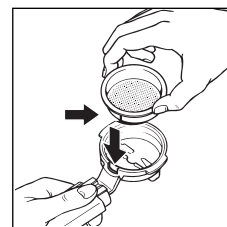
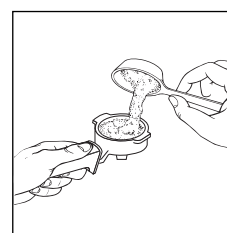

fig. 8
fig. 9
1. After carrying out the preheating of the machine as described in the preceding section, in order to make just one cup of espresso coffee, insert the 1-cup filter (the smaller of the two provided) into the filter holder (Fig. 8) and fill it with one level measuring spoon of ground coffee (fig. 9) – about 7 grams. If you wish to prepare two cups of espresso coffee, use the 2-cup filter (the larger of the two provided) and fill it with two less-than-level measuring spoons of ground coffee (about 6+6 grams).
2. Place the small filter (1 cup or pods) in the filter holder, making sure the projection is correctly inserted in the slot as shown in fig. 8.